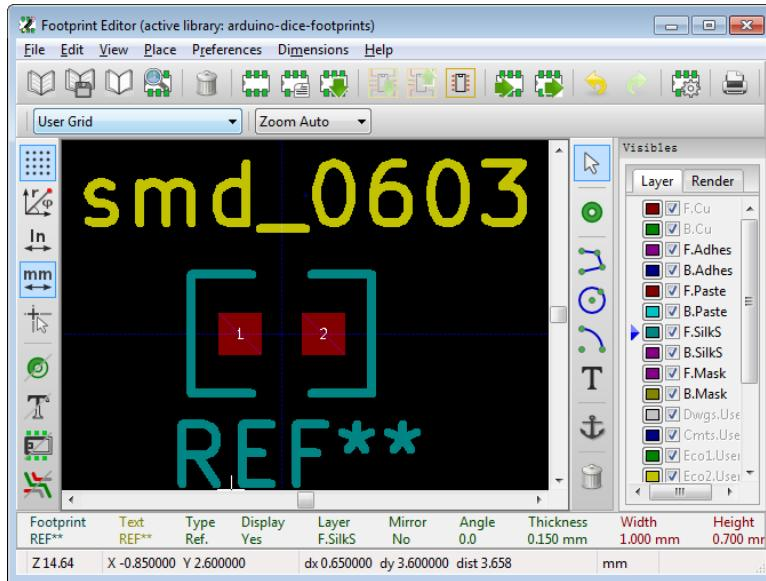

Figure 14: Completed footprint of the SMD 0603 capacitor.
- The finished footprint drawing should look like that shown in Fig. 14.